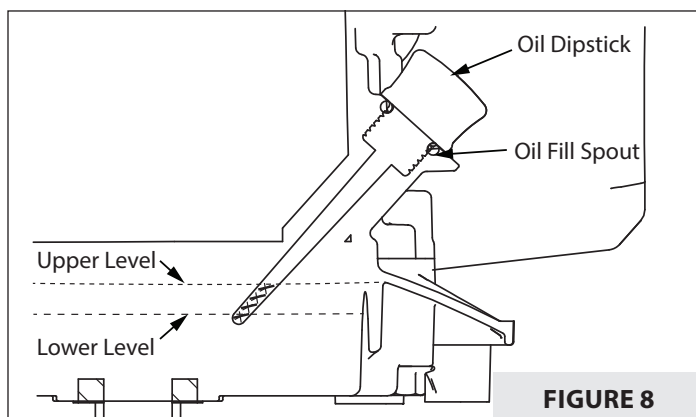

FIGURE 8
SEE FIGURE 8. DO NOT OVERFILL. For proper oil capacity, see the engine manufacturer’s instructions.
4. Reinsert dipstick and tighten. **SEE FIGURE 8.**